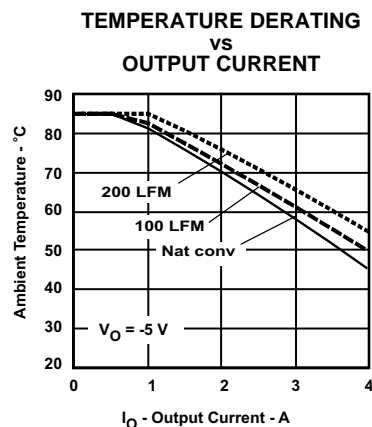

Figure 16.
- (2) The temperature derating curves represent the conditions at which internal components are at or below the manufacturer's maximum operating temperatures. Derating limits apply to modules soldered directly to a 100 mm x 100 mm, double-sided PCB with 2 oz. copper. Applies to Figure 16.